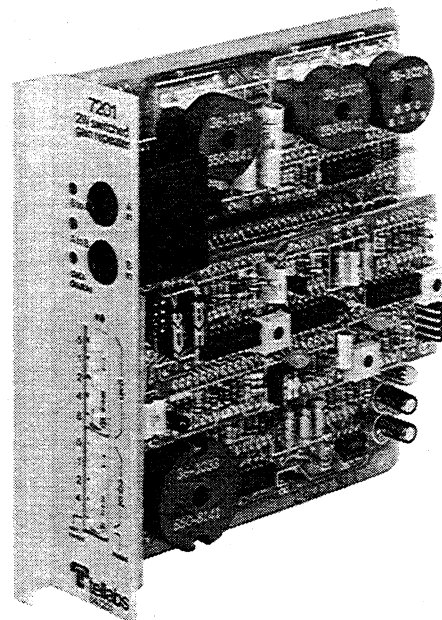

figure 1. 7201 2Wire Switched Gain Repeater Module
1.01 The Tellabs 7201 2Wire Switched Gain Repeater module (figure 1) provides prescription-set bidirectional gain and optional amplitude equalization for a 2wire facility composed of nonloaded cable, loaded cable, or a combination of the two. Flexible design and inherent stability allow the 7201 to be used at any convenient point, terminal or intermediate, on the 2wire facility.